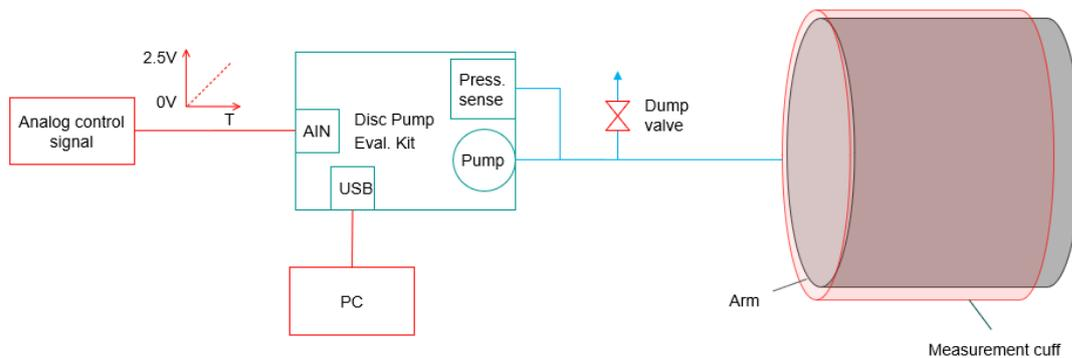

Figure 3 – A basic prototype system using the Disc Pump Evaluation Kit.
Figure 3 shows a basic test laboratory set-up, using the Disc Pump Evaluation Kit, including:
1. Connect equipment as shown in Figure 3.